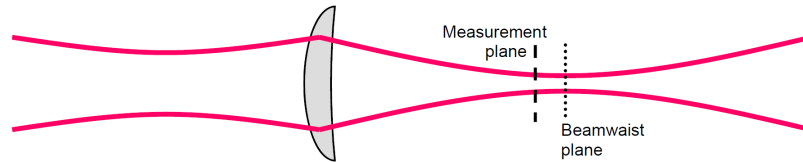

Fig. A.5
2. Next DataRay software finds the profile of the beam on both the major and minor axes (see Fig. A.5).